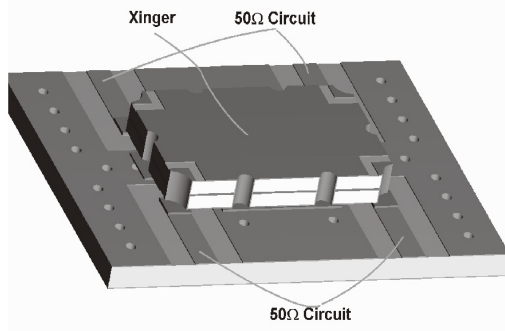

Figure 3: Component Placement
**Coupler Positioning:** The surface mount coupler can be placed manually or with automatic pick and place mechanisms. Couplers should be placed (see Figure 3 and 4) onto wet paste with common surface mount techniques and parameters. Pick and place systems must supply adequate vacuum to hold a 0.50-0.55 gram coupler.